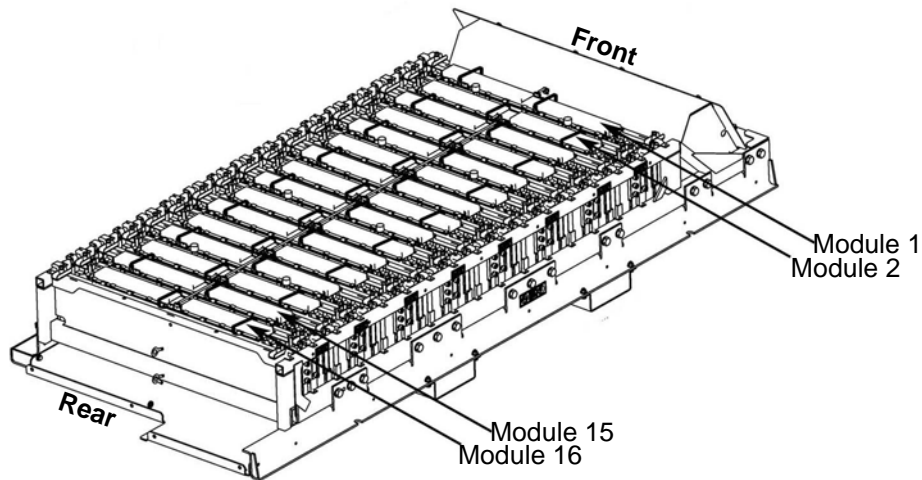

Figure 1-1
- a. Remove modules 1, 2, 15, and 16 (**see Figure 1-1**) to clean the ESS frame module support rails.